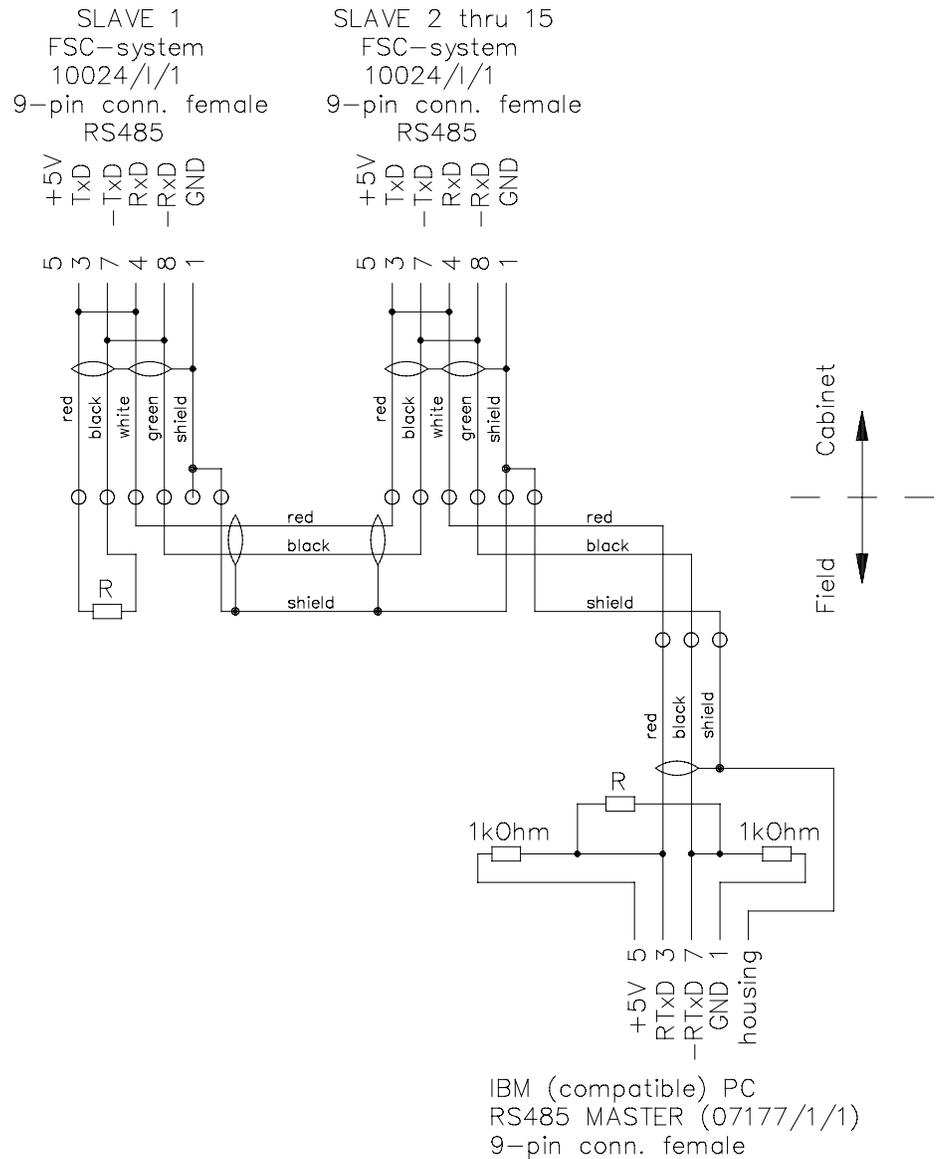

Figure 19 Connection between FSC system and FSC user station: simplex communication (using an I-interface)
- Using a simplex communication cable (see Figure 19).